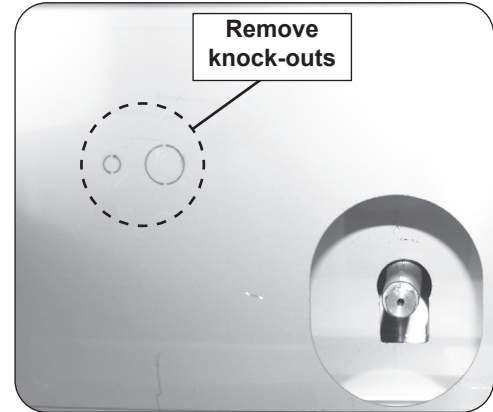

Fig. 4-1 Remove knock-outs
6. Carefully remove the knock-outs located in the forward firewall (see Fig. 4-1).